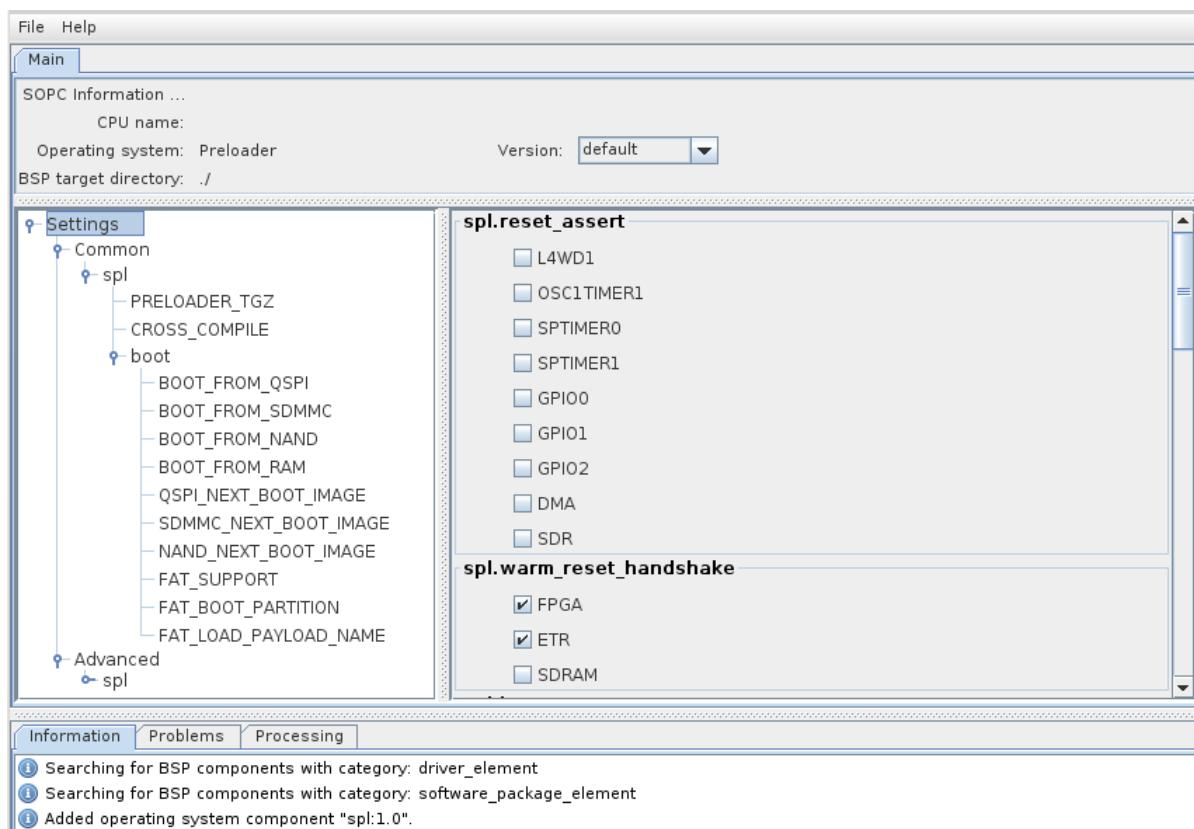

Figure 8-24. Preloader Settings Dialog
- c. Press the “OK” button. You should then arrive on a page with many settings, as shown on Figure 8-24. Take some time to read through them to see what the preloader has the ability to do.
12. On the main settings page of Figure 8-24, we will only need to modify 3 parameters for our design.